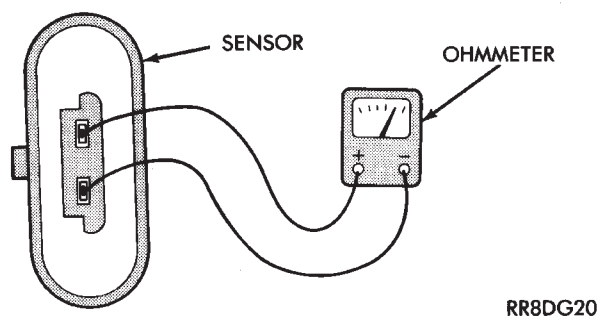

Fig. 6 Coolant Temperature Sensor Test
(1) With key off, disconnect wire connector from coolant temperature sensor (Fig. 6).
(2) Connect one lead of ohmmeter to one terminal of coolant temperature sensor.
(3) Connect the other lead of ohmmeter to remaining terminal of coolant temperature sensor. The ohmmeter should read as follows;